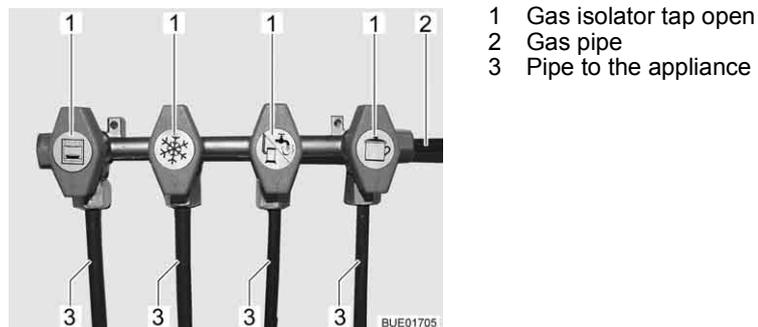

Fig. 90 Gas shut-off valves position (example)
- Position the gas isolator tap of the corresponding gas device parallel (Fig. 90,1) to the pipe (Fig. 90,3) leading to the device.